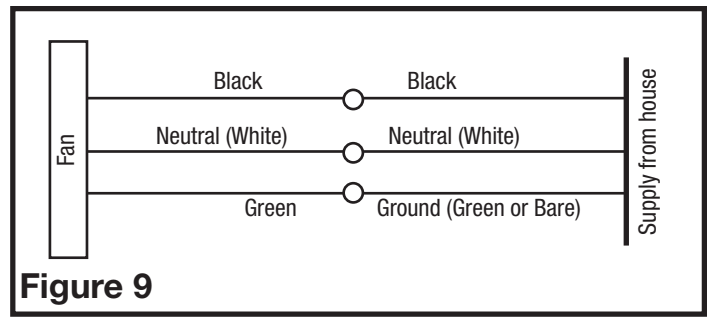

Figure 9
- 3a. **Continuous Ventilation:** For two speed fans wired for continuous ventilation, connect the White wire of the fan to the White (Neutral) wire from the power source. Connect the ground wire from the house to the green wire from the fan housing. Connect the Black wire of the fan to the Black wire (Hot) from the power source (**Figure 9**).